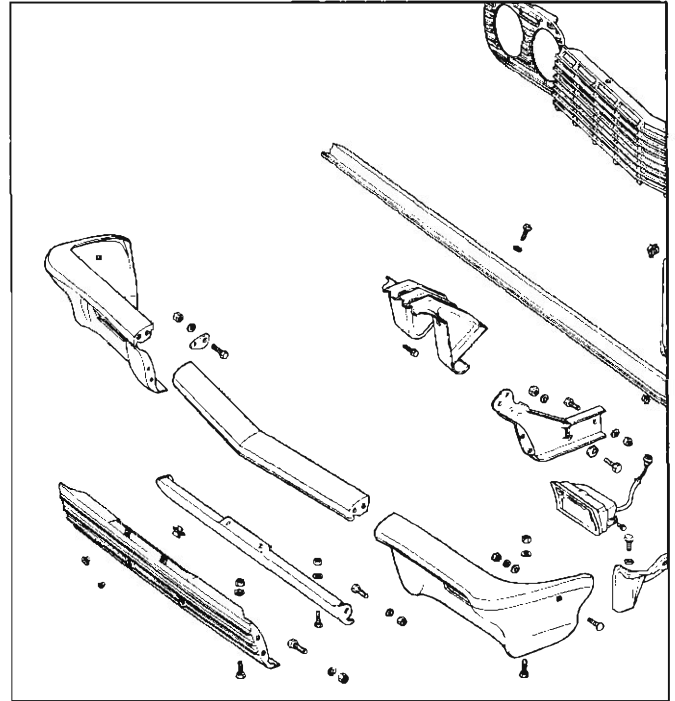

Fig. 10c—Front Bumper
3. Remove the Front Bumper Mounting Brace L and R forward attaching nuts and bolts (see fig. 10c).
Outer Face Bar—R or L Side (see fig. 10c)
Center Face Bar (see fig. 10c)
Installation (See fig. 10c)
FRONT BUMPER MOUNTING BAR ASSEMBLY (See fig. 10c)
GRILLE ASSEMBLY (figs. 10c and 15c)